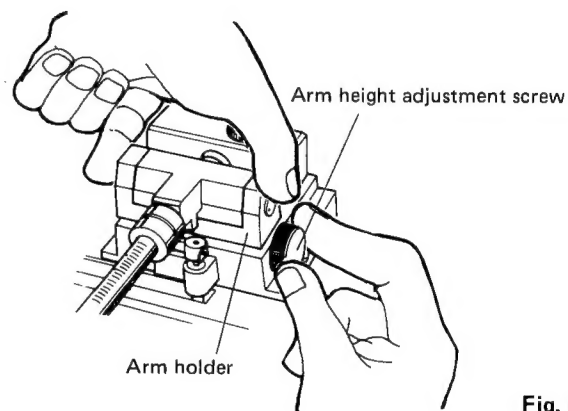

Fig. 6
- 7) With the set in this condition, adjust the tonearm so that it becomes level. While holding the arm holder, position the arm pipe parallel to the record surface and then secure it in place by turning the arm height adjusting screw in a clockwise direction. See Fig. 6 and 7 below.